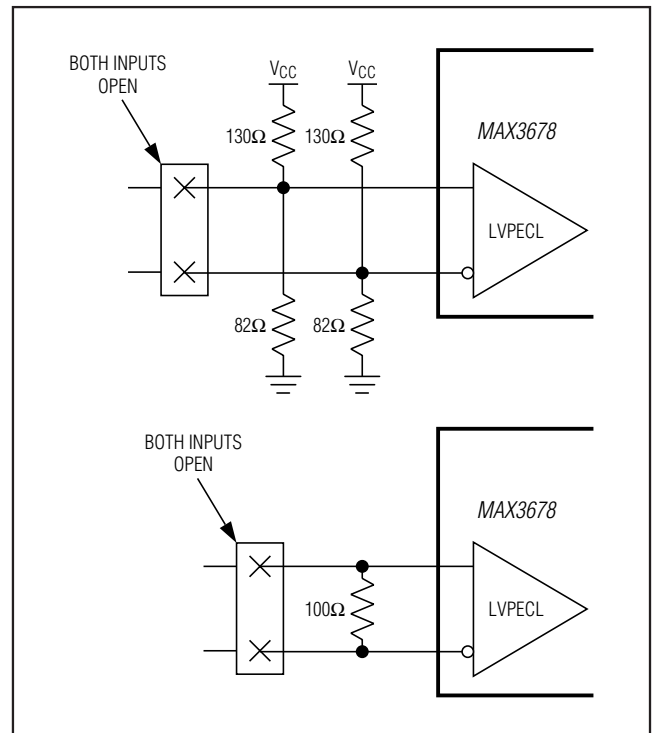

Figure 7. Positions for Open-Circuit Detection
- B) Both inputs ($\overline{\text{REFCLKx}}$, $\overline{\text{REFCLKx}}$) are disconnected from the source and have the following terminations connected: (a) 100 Ω differential, (b) 130 Ω to V_{CC} and 82 Ω to GND at each input. See Figure 7 for positions of open circuits that can be detected.